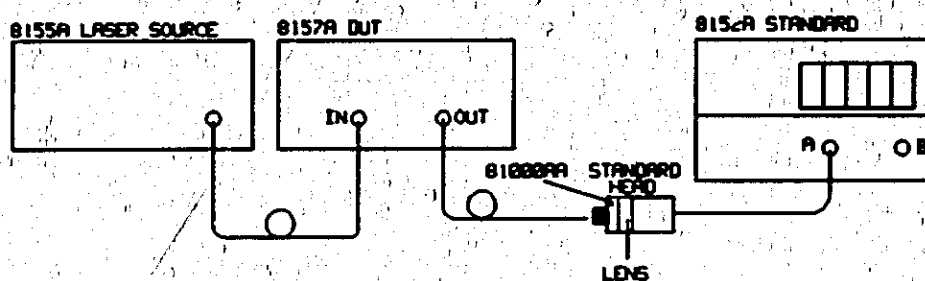

Figure 4-3. Attenuation Accuracy Test Set-up
2. Connect equipment as shown in Figure 4-3.